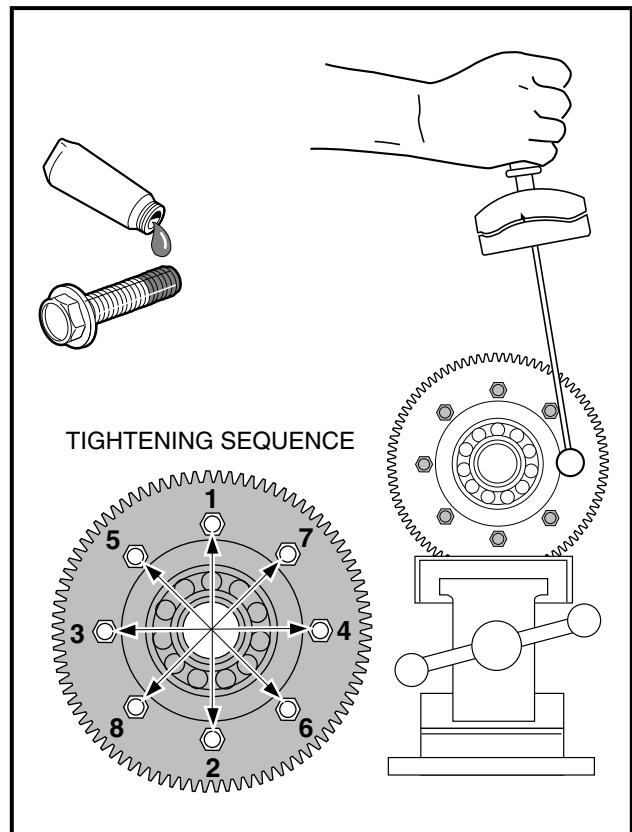

Figure 19-40 Retaining Bolts
7. Apply Loctite 277 on the threads of the eight mounting bolts and install them through the ring gear, carrier case, and into the carrier case cover. Tighten the bolts to 18 ft-lb (24.4 N-m) in the sequence shown (**Figure 19-40, Page 19-20**).